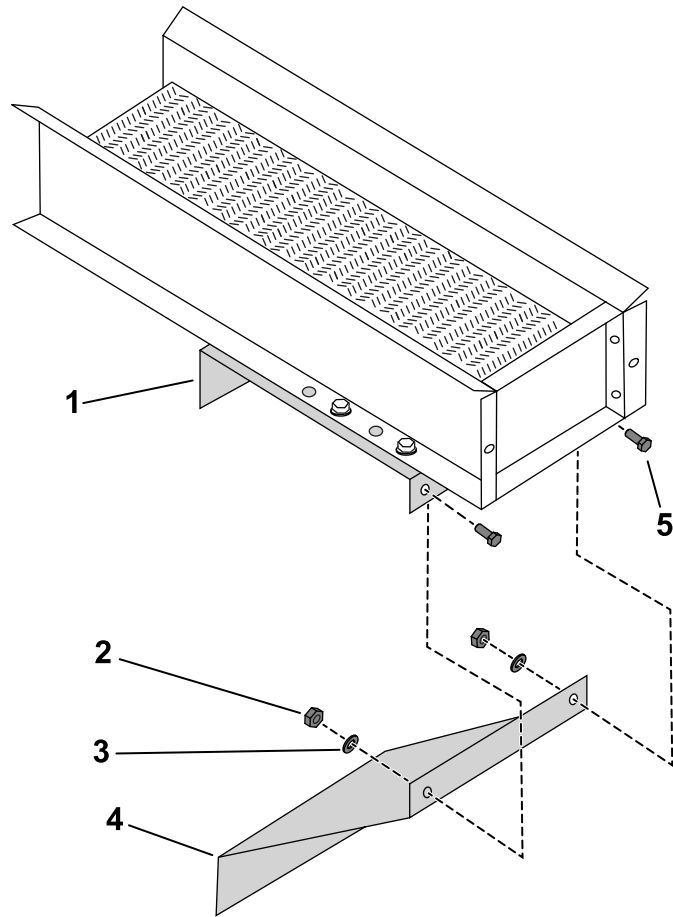

Figure 13
- Use the 2 bolts (3/8 x 1 inch), washers, and nuts to secure the lower bracket to the upper bracket (Figure 13).